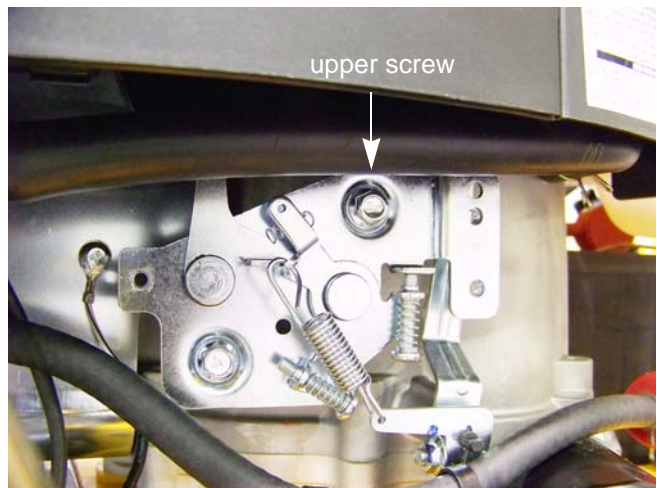

Figure 4.25
5. Remove the upper screw that holds the control panel to the engine block. See Figure 4.25.